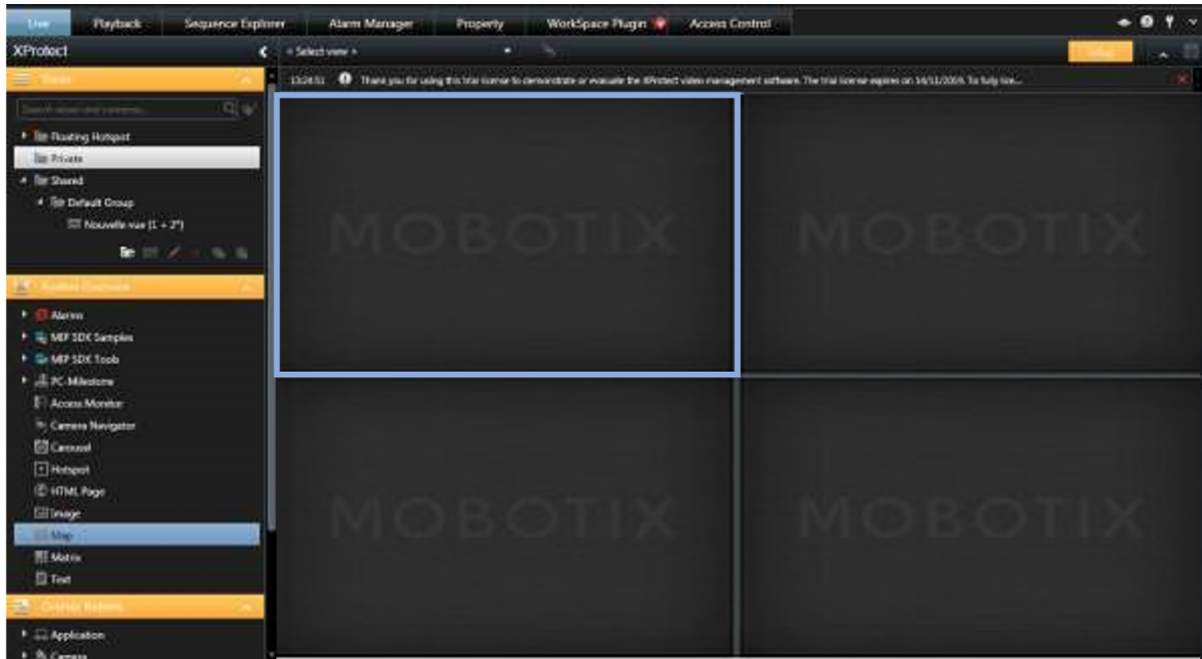

Figure 31: Access control view setup.
In order to do so, once in the “Live” thumbnail (1), ensure that the “Configuration” mode (2) is active. Then drag and drop the input “Access monitor” (3) to the part of the window where a display can be placed. This is illustrated in Figure 31.